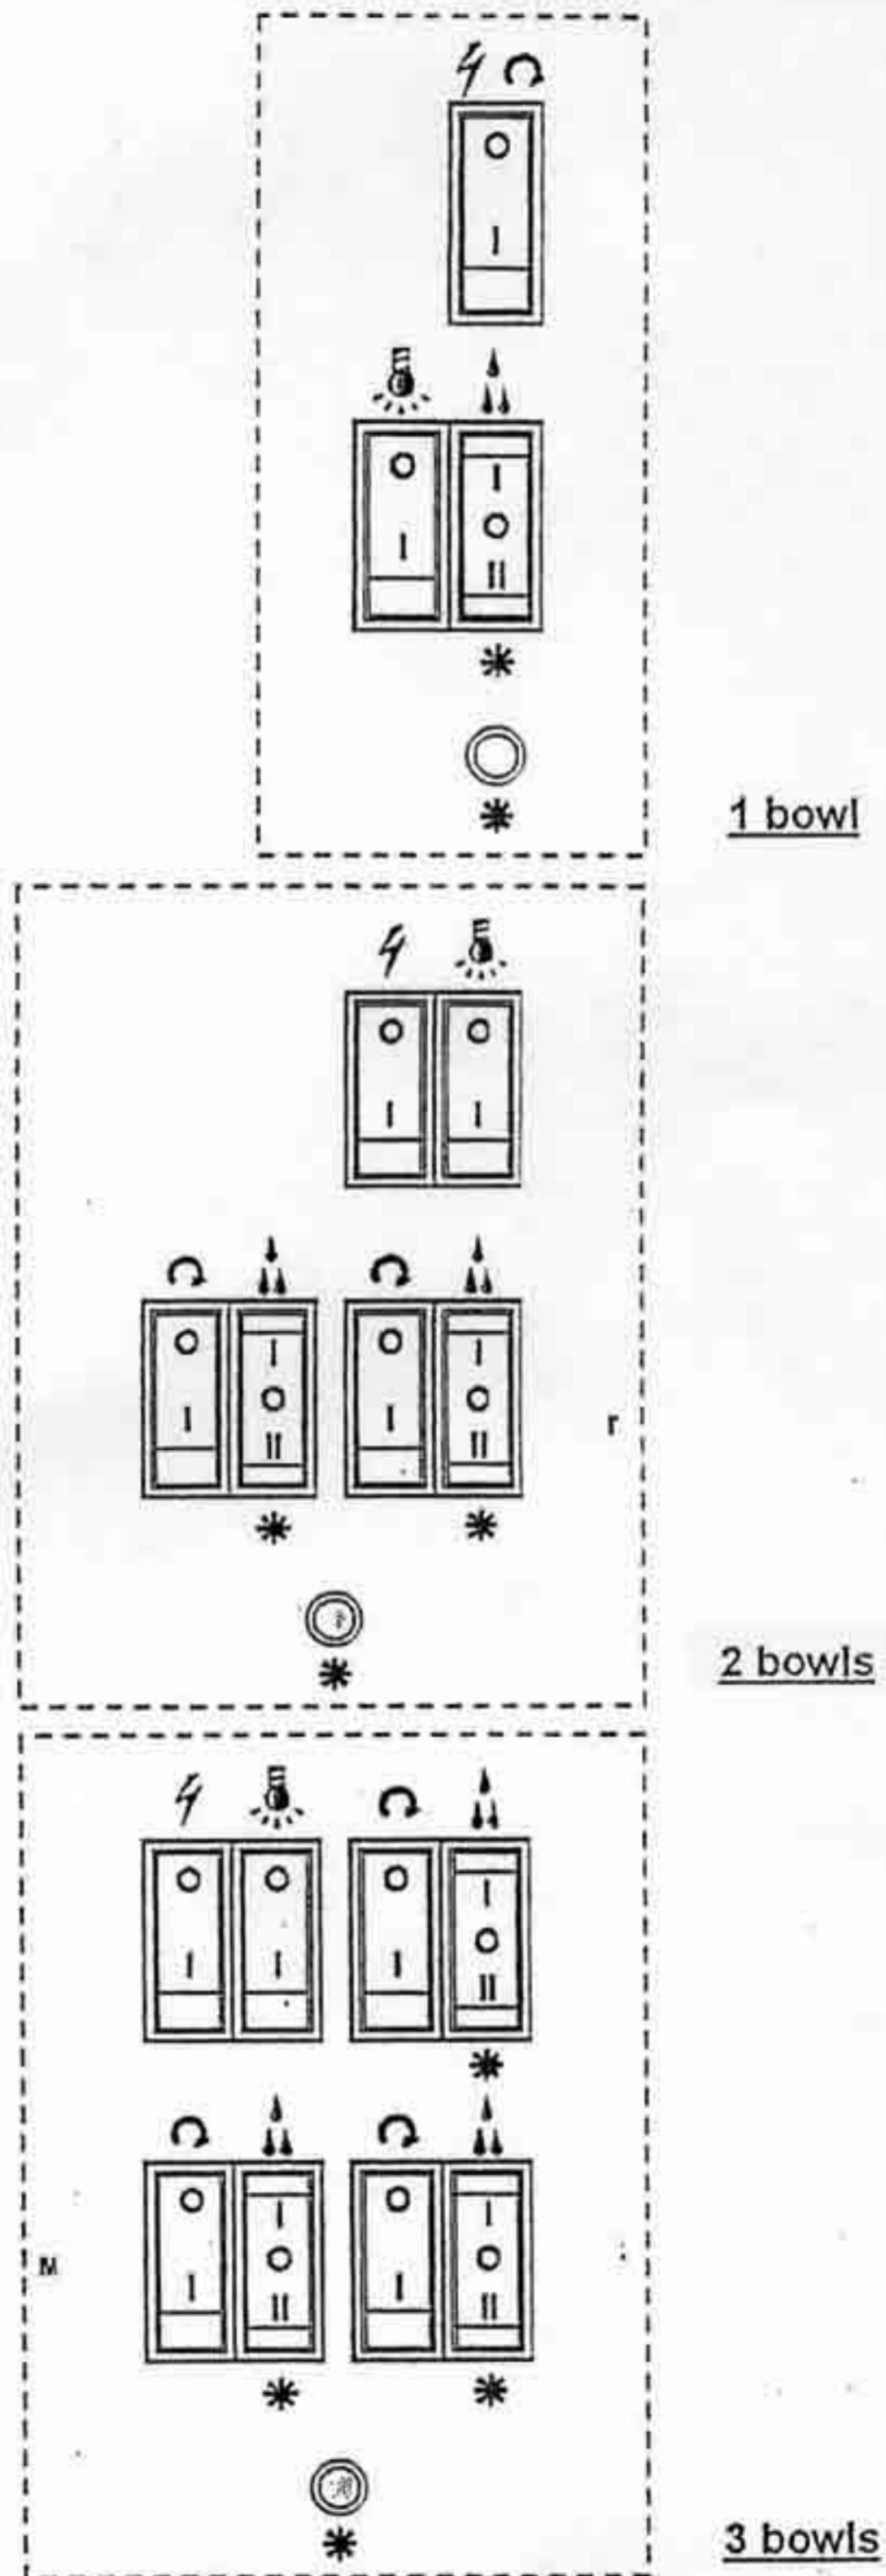

Figure 12
4. To operate, press main power switch and agitator switch to ON position (Figure 12). NOTE: The agitator switch must be to ON position before setting to liquid or slush mode.